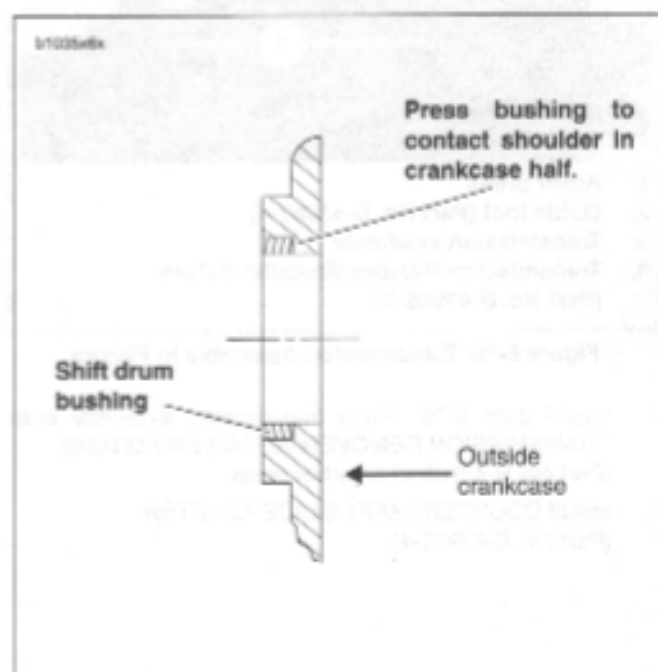

Figure 6-74. Shift Drum Bushing Assembly
2. See Figure 6-74. Lay bushing squarely over bore. Using a pressing tool larger than diameter of bushing, press bushing into bore until bushing contacts shoulder in left crankcase half. If using a pressing tool larger than diameter of bushing, the pressing tool will bottom against crankcase when bushing is flush with top surface.